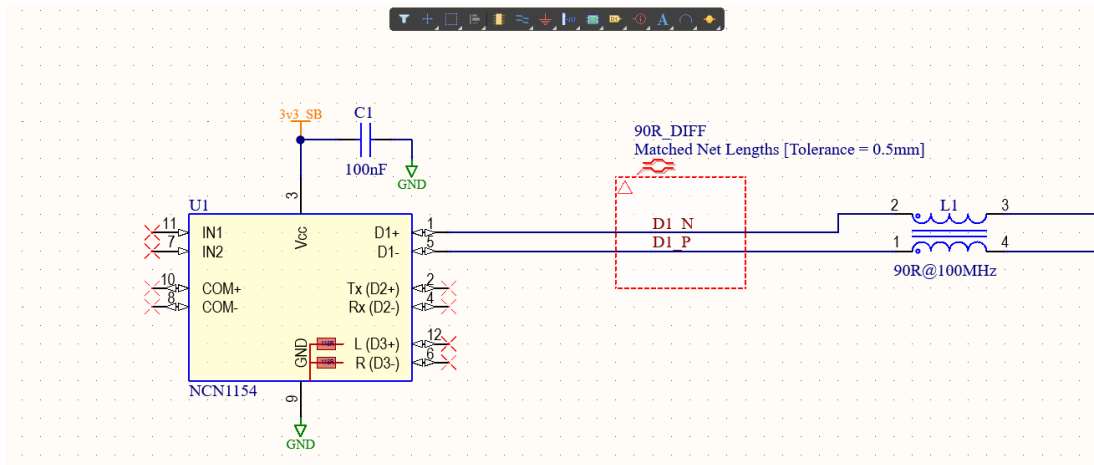

Figure 8. Blanket Directive
- Now place the Directive on the Blanket. Feel free to change the position of the strings, as shown in Figure 8.